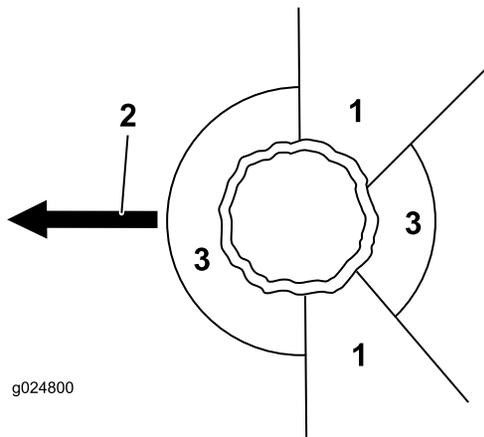

Figure 16
- Determine a clear, safe retreat path away from the danger area; refer to Figure 16.